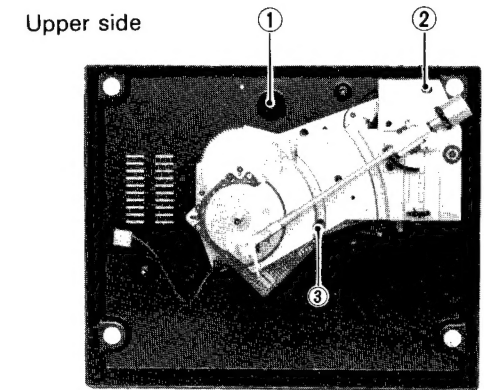

Fig. 14
1. Remove screws (1) - (3) as shown in Fig. 14.